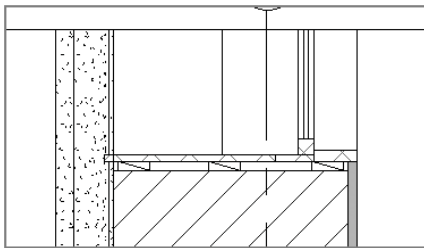

FIGURE 11.13 Inserting and placing the blocking
7. Insert pieces of blocking at the left, right, and center of the sill (Figure 11.13).